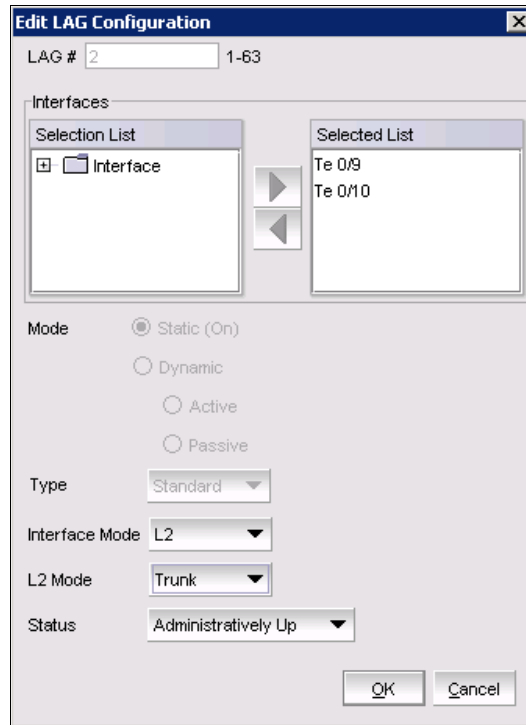

Figure 5-25 Edit LAG Configuration dialog
8. Select the new LAG and click **Edit**. The Edit LAG Configuration dialog box now opens (Figure 5-25 on page 171).